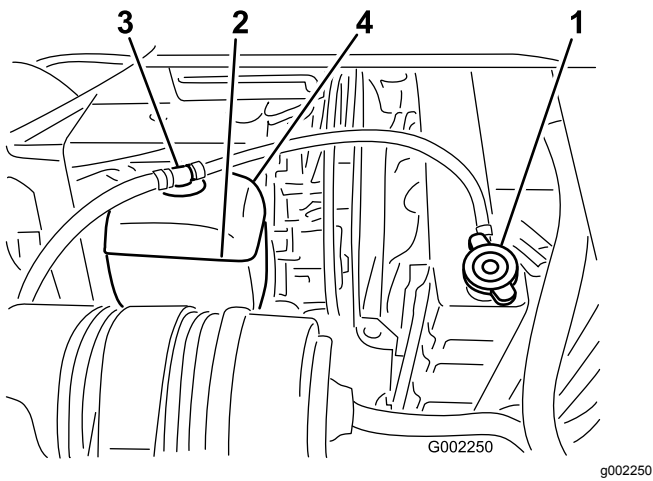

Figure 55
2. When the engine is cool, remove the radiator cap (Figure 55).